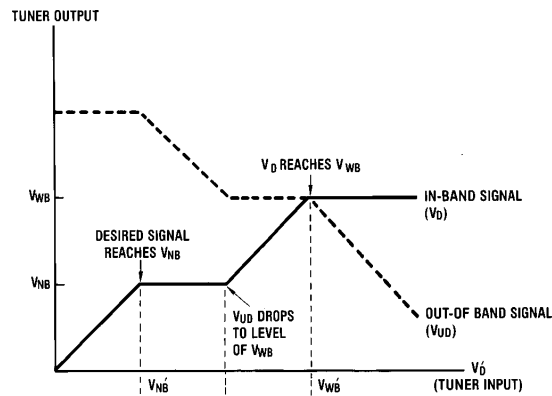

FIGURE 8
*Figures 8 and 9* illustrate what happens at the tuner and AGC outputs when the strength of an in-band signal is varied in the presence of a strong out-of-band signal (i.e., greater than  $V_{WB}$ ) which is held constant at the tuner input. For this example, the in-band signal at the tuner output will be referred to as  $V_D$  (desired signal), and the out-of-band signal as  $V_{UD}$  (undesired signal).